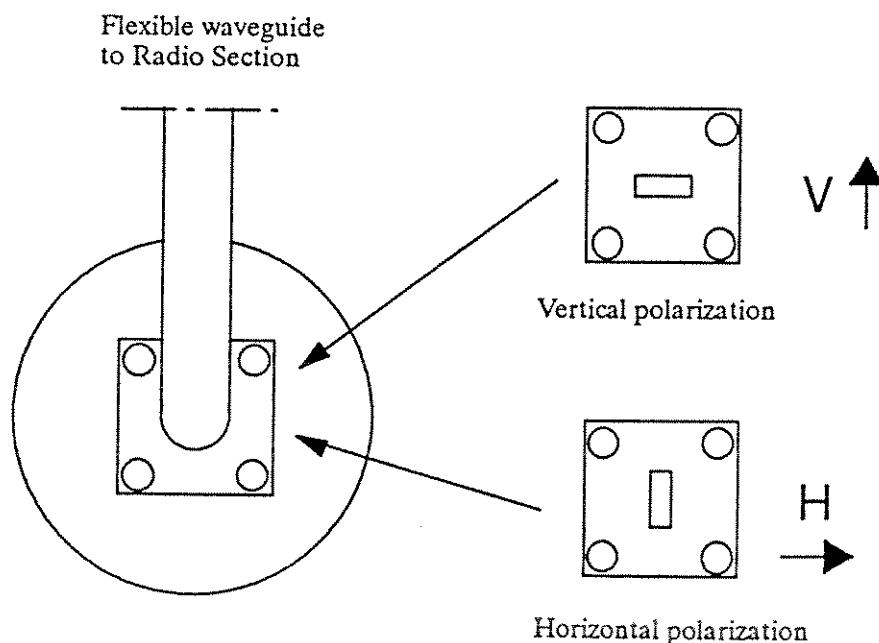

Figure 43 Antenna flange in vertical and horizontal polarization
Usually, only vertical polarization is used in the frequency range 38 GHz to reduce the reflections caused by buildings and rain attenuation (electric field E and narrow side of the waveguide in vertical direction, see *Figure 43, "V"*).
However, it is also possible to use the antenna in horizontal polarization (the narrow side of the waveguide in horizontal direction, see *Figure 43, "H"*). With the horizontal polarization the rain attenuation in light rain is approx. 1 dB/km higher than with the vertical polarization (see Nokia's *Route Design for Radio Links above 17 GHz*).
3. Vertical polarization (V), see *Installation instructions E10007509RX*: Hold the waveguide and quick release clamp so that the flange stays in the connector guide pins. Slide the quick release clamp to the antenna flange from the left-hand side and direct the flange of the antenna and quick release clamp. Check the direction also from the flange edges. The wide side of the antenna waveguide and flexible waveguide must be parallel to each other (see *Figure 43* on page 63).
Horizontal polarization (H): Hold the waveguide and quick release clamp so that the flange stays in the connector guide pins. Slide the quick release clamp to the antenna flange from below and direct the flanges with the connector guides. Check the direction also from the flange edges. The wide side of the antenna waveguide and flexible waveguide must be parallel to each other (see *Figure 43* on page 63).